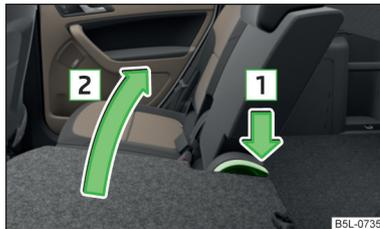

Fig. 73
- Press the lever in direction of arrow **1** » Fig. 73 and fold back the seat backrest to its original position in the direction of arrow **2**.